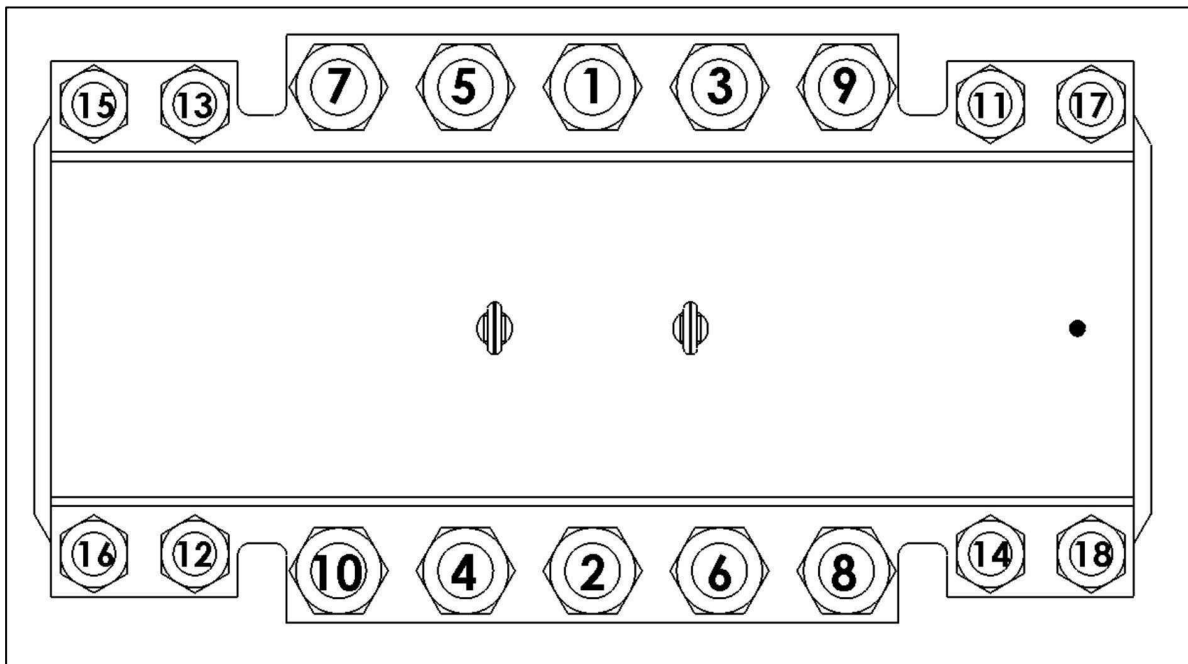

Figure 14
11. Torque all the studs and nuts on the PLIDCO Hot Tapping+Saddle uniformly, using the **Torque Values for Sealing Section** in the *PLIDCO Sealing Area Torque Chart* located on page 19. The actual fitting may have more or less studs. The best results are obtained by maintaining an equal gap all around between the sidebars while tightening the studs. Ensure there is full nut engagement by maintaining a minimum of 1/4 inch (6.4 mm) of the studs extending beyond the nuts. The sequence for torquing the studs should follow the pattern of Figure 14, and will be executed repeatedly as follows: